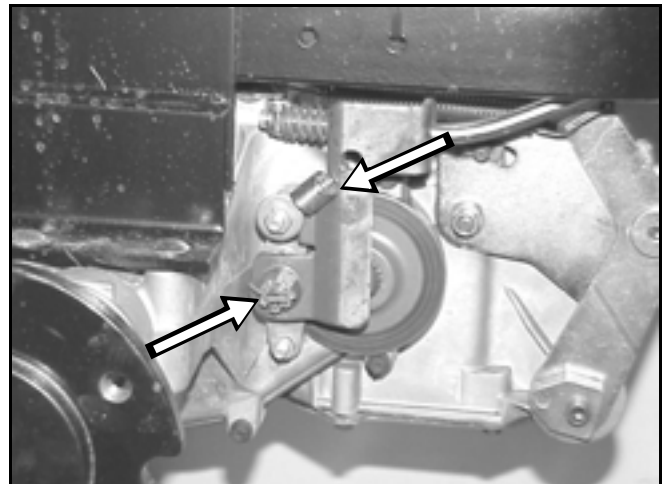

Figure 119
4. Remove the cotter pin located on the crown nut for adjusting the brakes. Remove the crown nut, brake bracket, brake arm spring and brake rod (Figure 119).